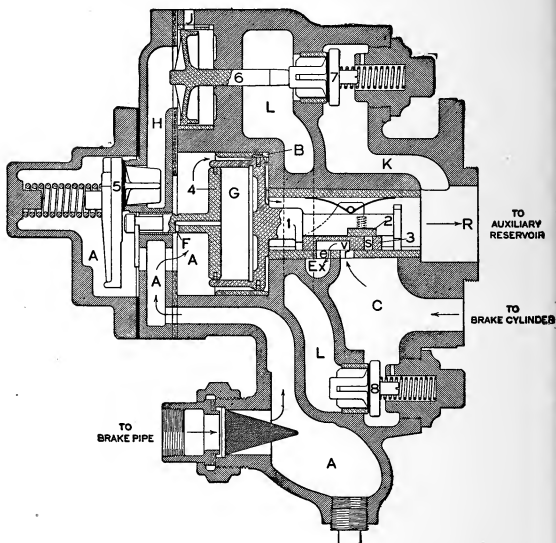

Fig. 27.—Release Position.
Fig. 27 shows the triple in release and charging position. Air from the brake pipe enters the triple valve at "A" and passes through the feed groove "B" to the auxiliary reservoir "R," until the auxiliary reservoir and brake
When piston (6) moves to the right, it also unseats quick action valve (7), permitting auxiliary reservoir air to flow rapidly through passages "K" and "L," unseating check valve (8) and passes into "C" and the brake cylinder. Auxiliary reservoir air also flows through the service ports "S" and "R" to the brake cylinder, thus causing an instant equalization of the auxiliary and brake cylinder pressure. As soon as equalization takes place, the springs return all emergency parts to their normal position, leaving only the piston slide and graduating valve in the application position, as shown in Fig. 28. When the brake pipe pressure is restored, they return to release position, Fig. 27.